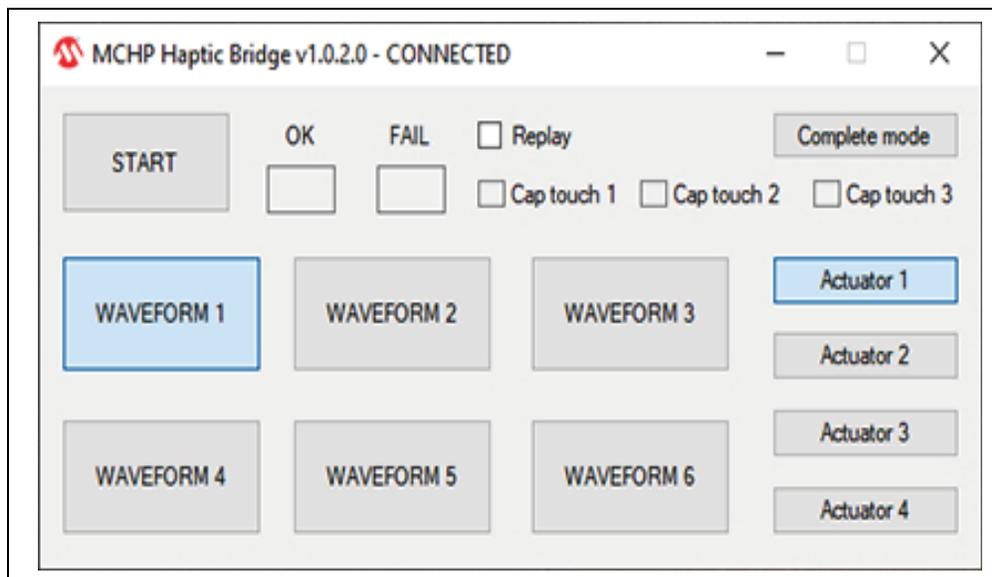

FIGURE 2-13: The GUI Recognizes the Evaluation Board.
5. The evaluation board will be recognized by the GUI as shown in Figure 2-13.